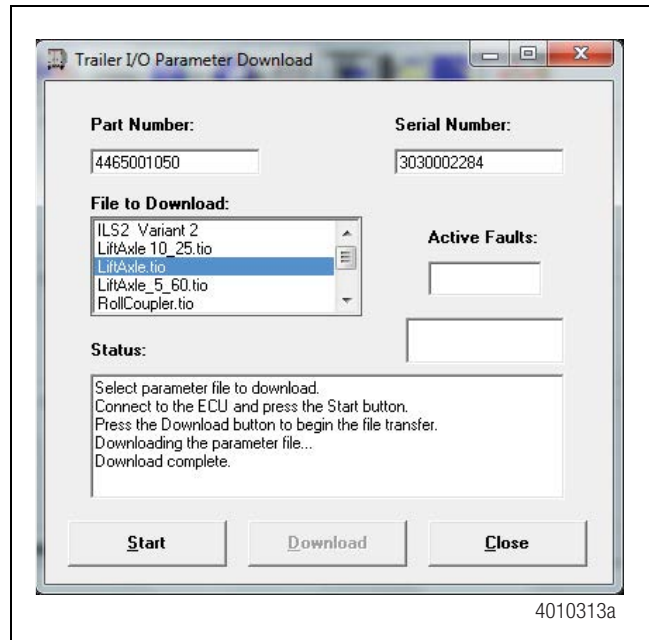

Figure 13
3. After the TOOLBOX™ screen displays "Download Complete", press **Close** and perform the Lift Axle Test. Figure 13.